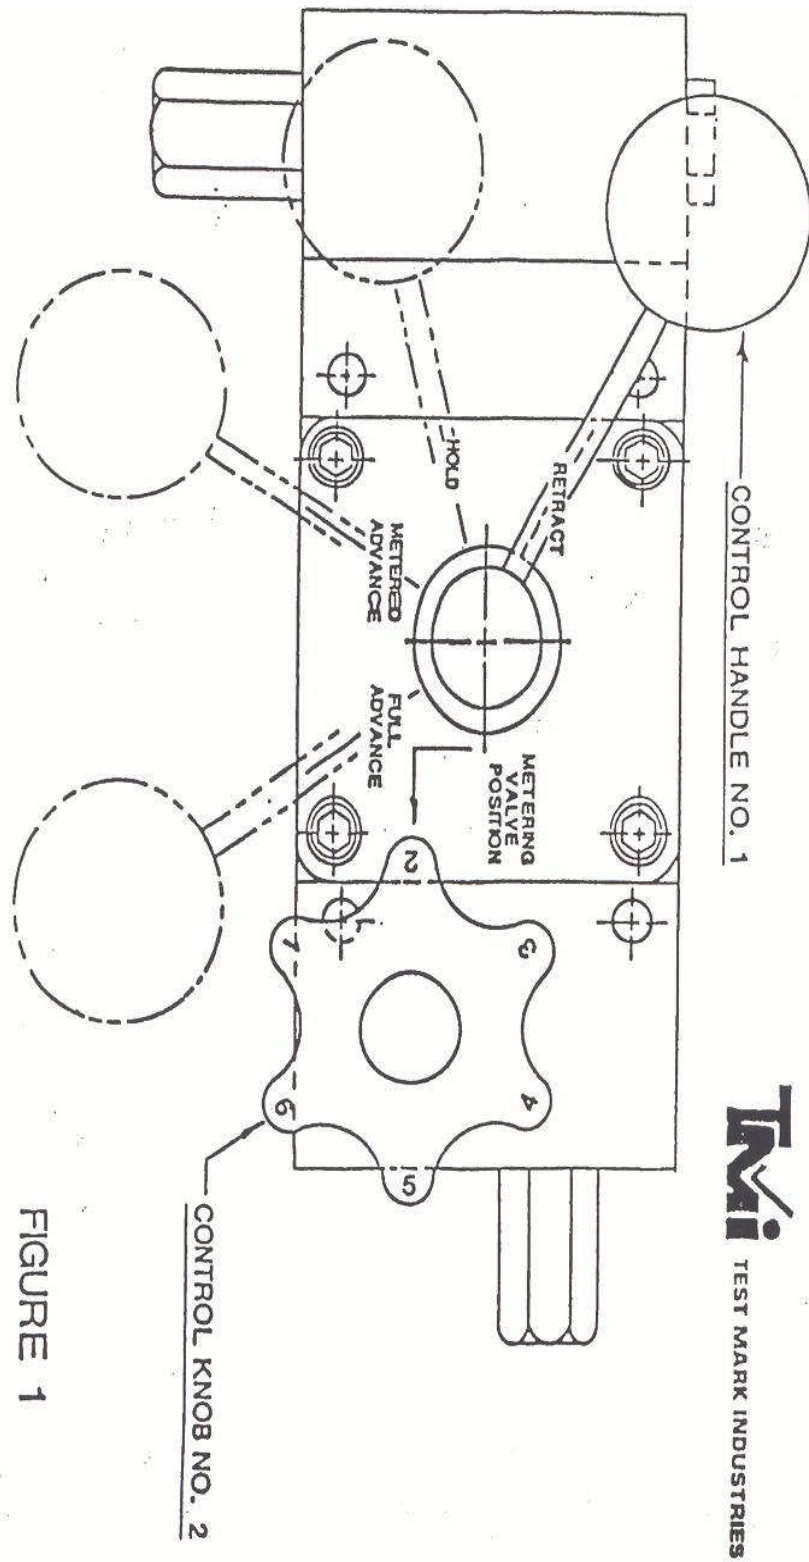

FIGURE 1
4.5 FIGURE 1: Control Valve10
Placing Control Handle No. 1 (see figure 1) into the metered advance position allows the operator to adjust the rate of loading through the use of Control Knob No. 2. The adjustment for increasing the rate of loading is to turn Knob No. 2 counter-clockwise, for decreasing the rate of loading turn Knob No. 2 clockwise. **CAUTION:** Do not over-tighten Control Knob No. 2.
Placing Control Handle No. 1 into the hold position (see figure 1) stops the loading of the specimen and holds the pressure on the specimen at that point.
4.5 FIGURE 1: CONTROL VALVE